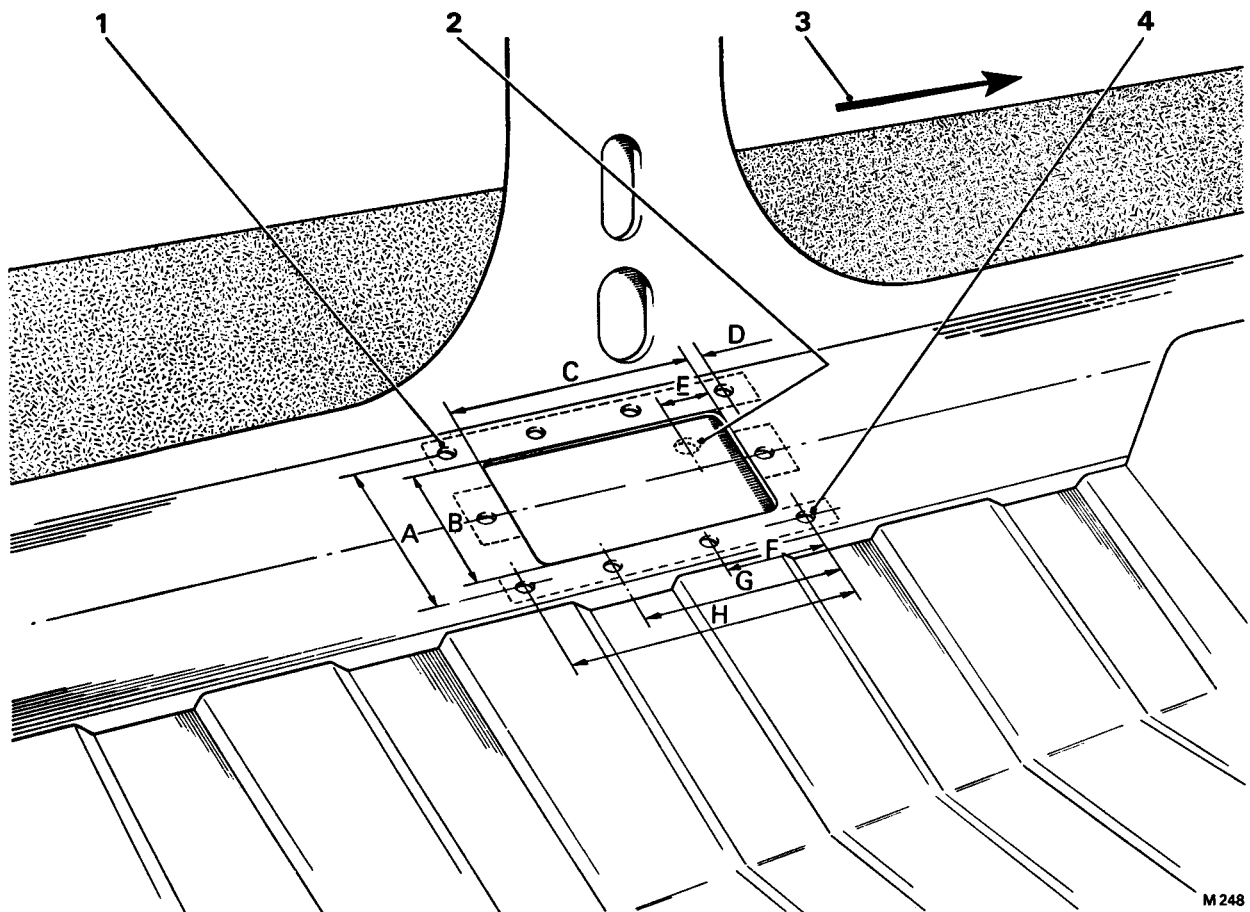

FIG. S101 DRILLING DIMENSIONS FOR THE SILL FLOOR (Early 4-Door Saloon and Long Wheelbase Non-division Cars)
3. Mark out the section of the sill to be removed and the ten holes to be drilled, working to the dimensions shown in Figure S101, note that these dimensions are taken from the centre of the existing seat belt anchorage point (see Fig. S101, item 2).
6. Drill the ten holes around the aperture (see Fig. S101), using a 0.462 in. (10.32 mm.) diameter drill; remove any drilling swarf and filings from the sill channel.